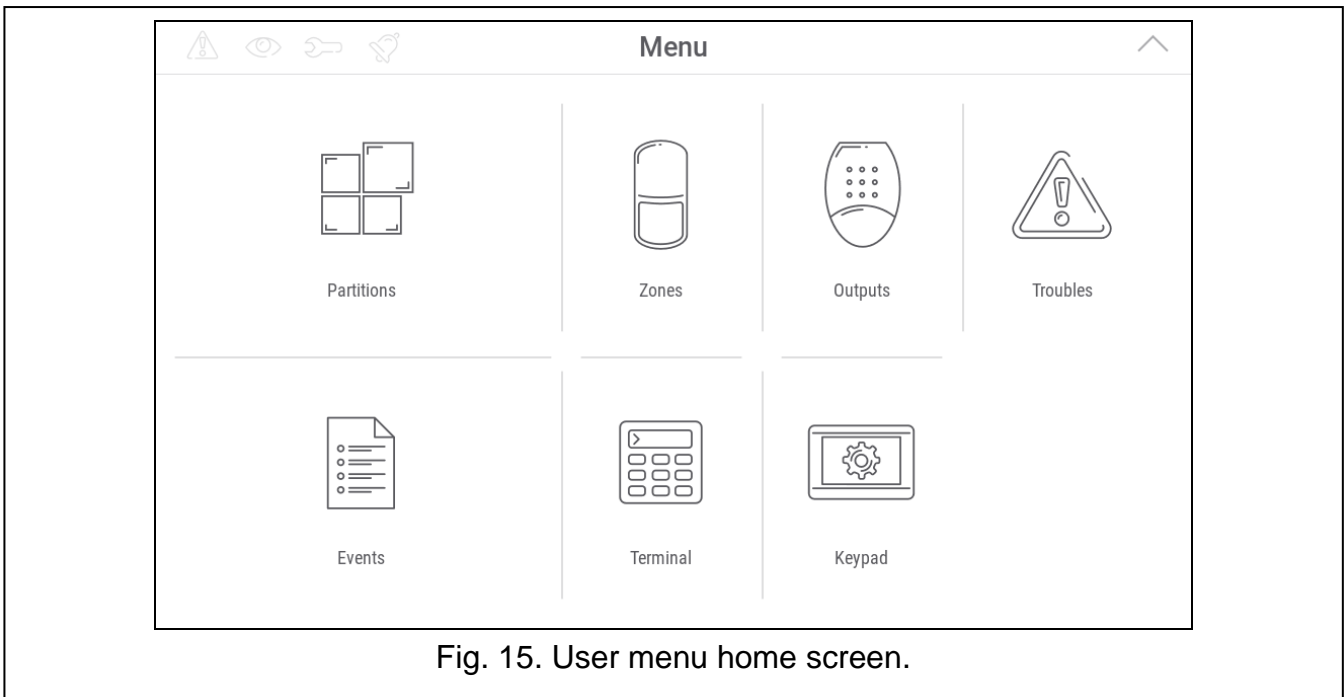

Fig. 15. User menu home screen.
3. Enter the service code (by default: 12345) and tap . The user menu home screen will be displayed (Fig. 15).